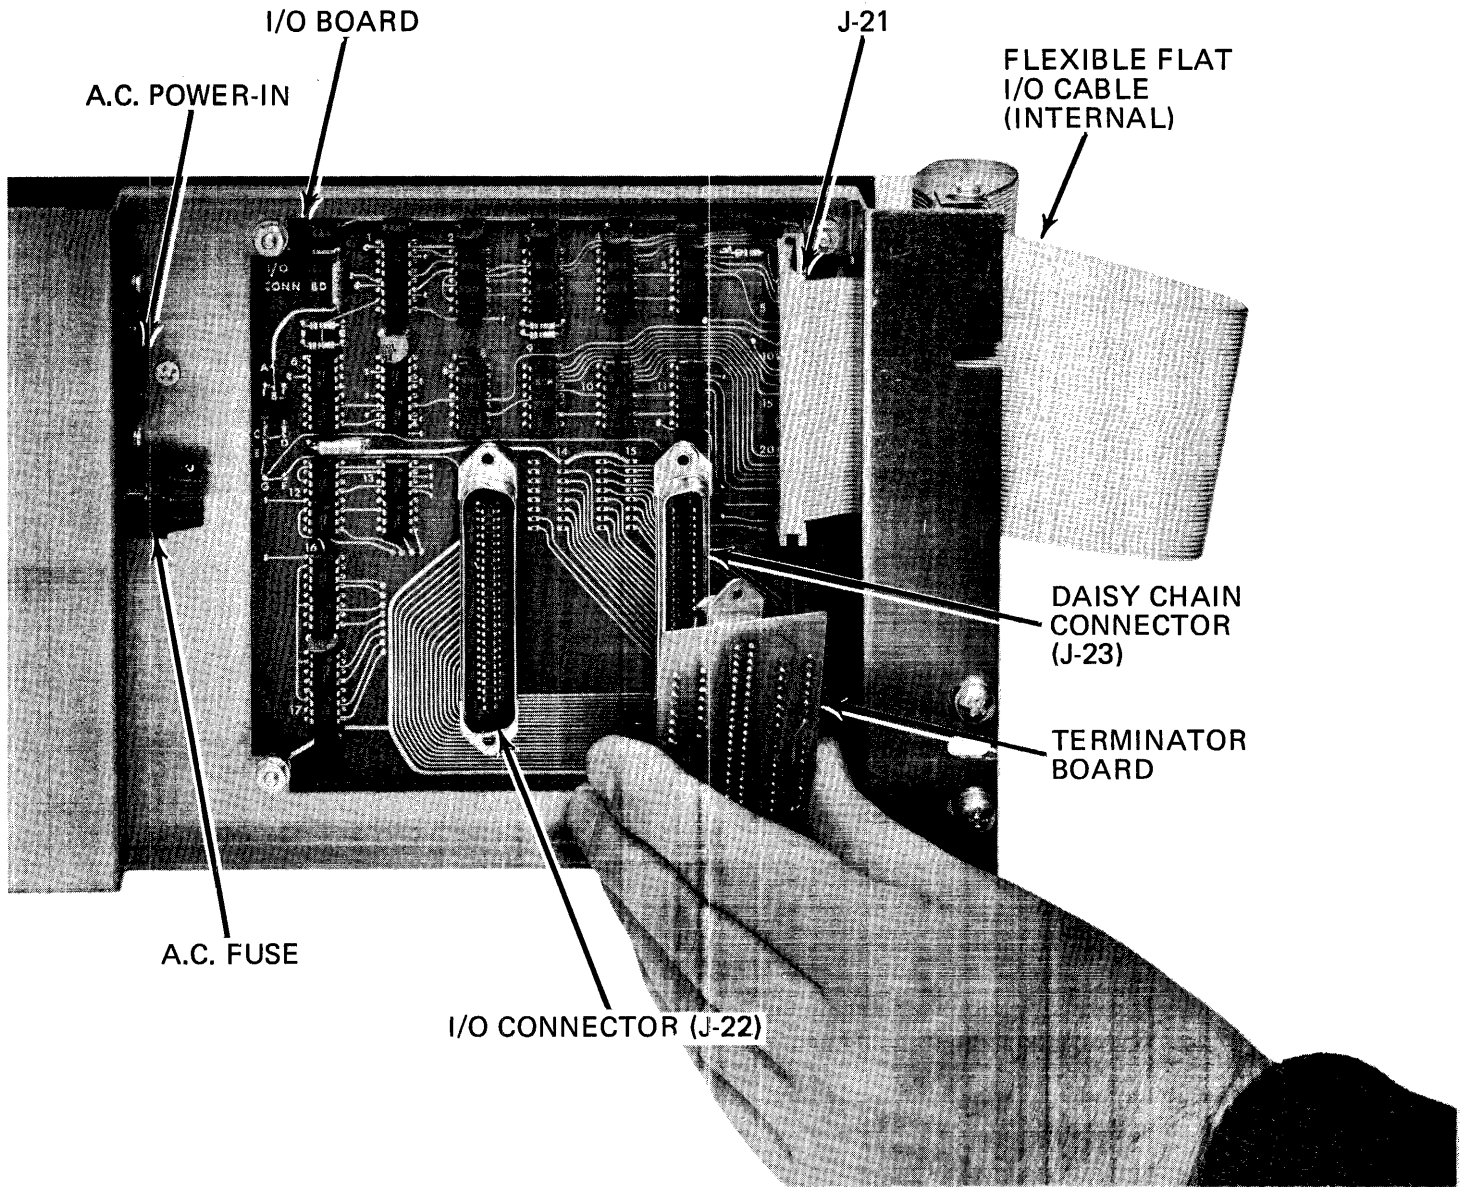
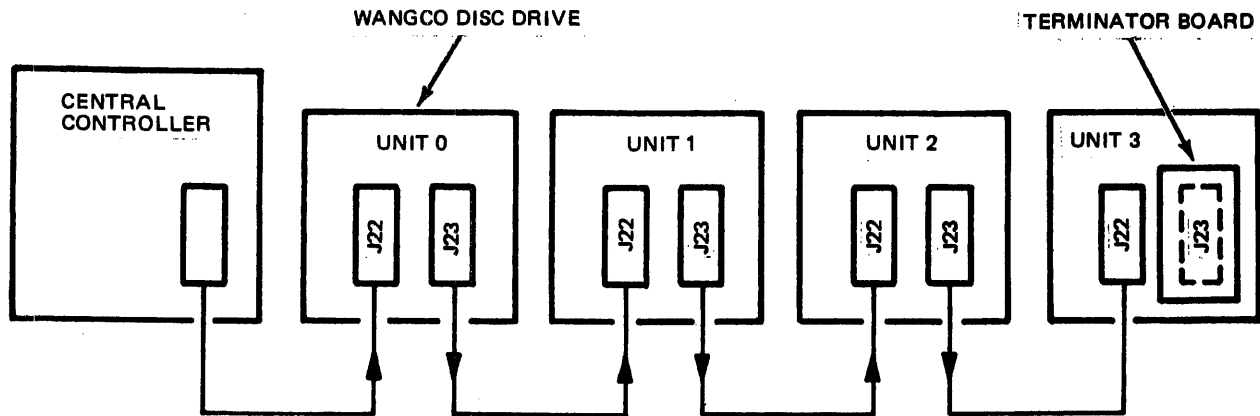

Figure 2-3. Rear Panel and I/O Connector Board
Figure 2-4. Multiple Disc Drive Installation (Daisy Chaining)
2.3.2.2 Interconnection (Daisy Chaining) of Disc Drives. Daisy Chaining of up to four drives is permitted by an integral system of two connectors mounted on the I/O board as shown in Figure 2-3. The last drive in the chain must be terminated with a detachable Line Terminator Assembly (ref. figure 2-3, WANGCO PN 300095-001). A daisy chain interconnecting cable (WANGCO PN 300118-XXX, XXX = length in inches) is used to interconnect the drives. See Figure 2-4. The AC power cable is WANGCO PN 101153.